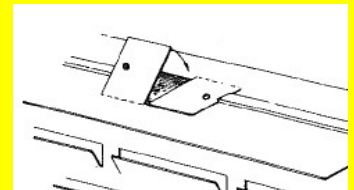

Fig. 6 Positioning the pheromone
- When using the single trap, fill the pheromone from the top through the tabs into the interior of the trap so that it is freely suspended at the height of the fourth slot row from the top (see Fig. 6). When using the three-trap star, only one pheromone is required that is secured between the three traps (at the height of the fourth slot row from the top) on the shade side of the three-trap stand.